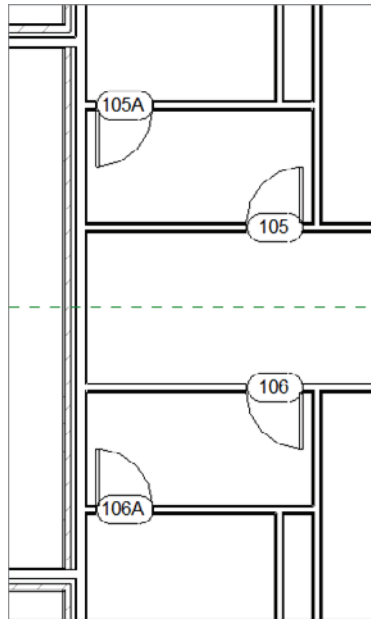

FIGURE 2.72 Adding lavatory doors. You'll have to renumber the tags.
7. Add bathroom doors, keeping all offsets 1'-0" away from the walls as shown in Figure 2.72. Use Single-Flush: 36" × 84" (M_Single-Flush 0915 × 2134mm).